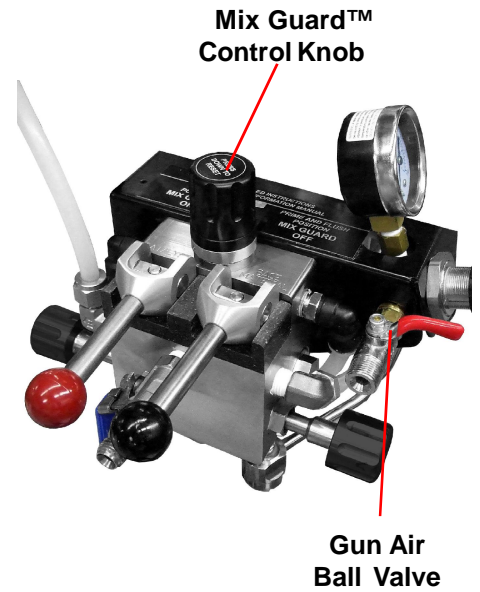

figure 3
4. Attach gun air hose (RED HOSE) to ball valve at gun pressure regulator and to air inlet on gun. Ball valve should be closed and regulator backed off. (figure 3)
5. Turn MIX GUARD™ control knob to the OFF position. (figure 3)